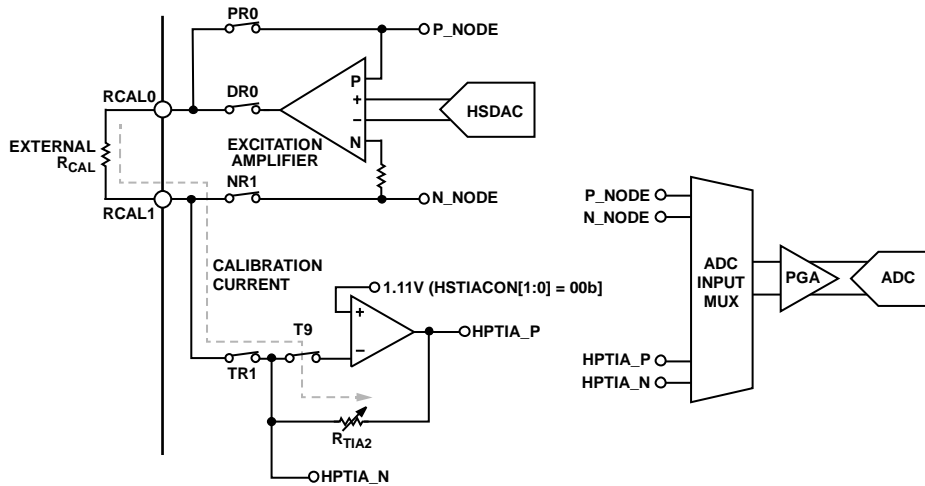
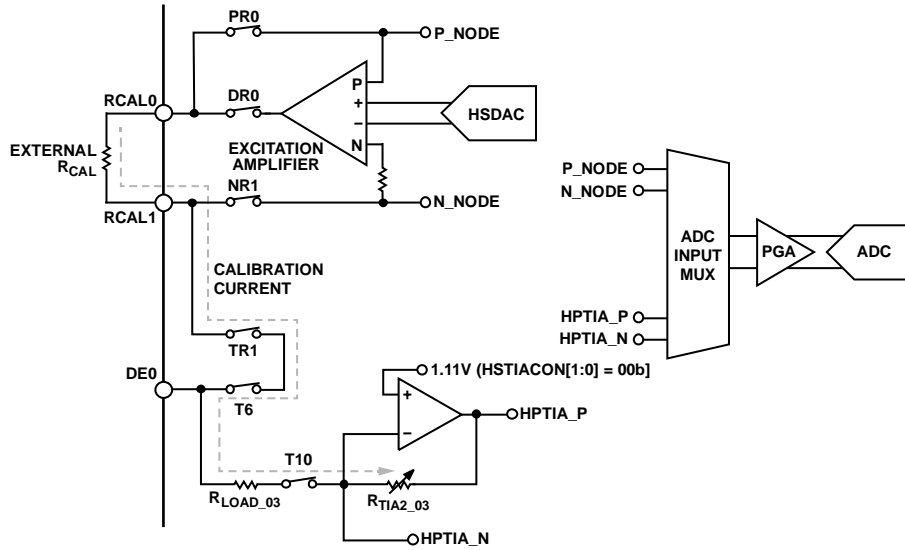
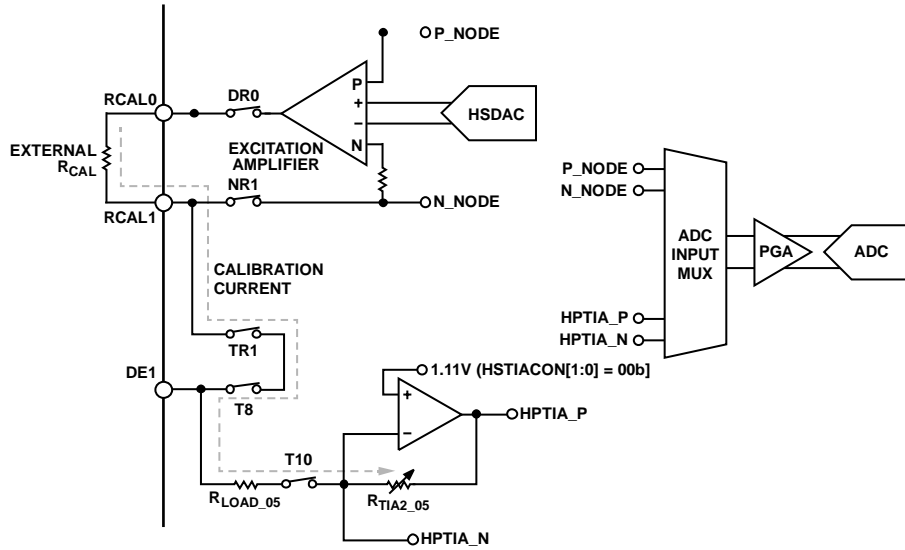

Figure 24. HSDAC, HSTIA, and Switch Matrix Settings for RTIA2 Calibration
Figure 25. HSDAC, HSTIA, and Switch Matrix Settings for RTIA2\_03 Calibration
Figure 26. HSDAC, HSTIA, and Switch Matrix Settings for RTIA2\_05 Calibration
Figure 24 shows the setup and switch settings that connect the HSDAC output to the external RCAL resistor and the current flow into the HSTIA and RTIA2 gain resistor.
- The ADC HPTIA\_P input channel and HPTIA\_N input channel are measured for each of the three switch configurations shown in Figure 24, Figure 25, and Figure 26.